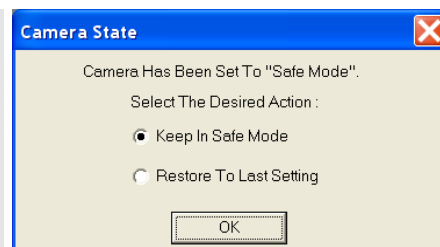

Figure 132. Camera State dialog
**Note:** The gate functions of the PI-MAX camera are controlled by the PTG. If the system is equipped with a PI-MAX camera, the Camera State dialog (Figure 132) will appear when the software is started. Although the software always initially places the PI-MAX in Safe mode, you have the option of restarting with the last setting (Shutter Mode or Gate Mode).